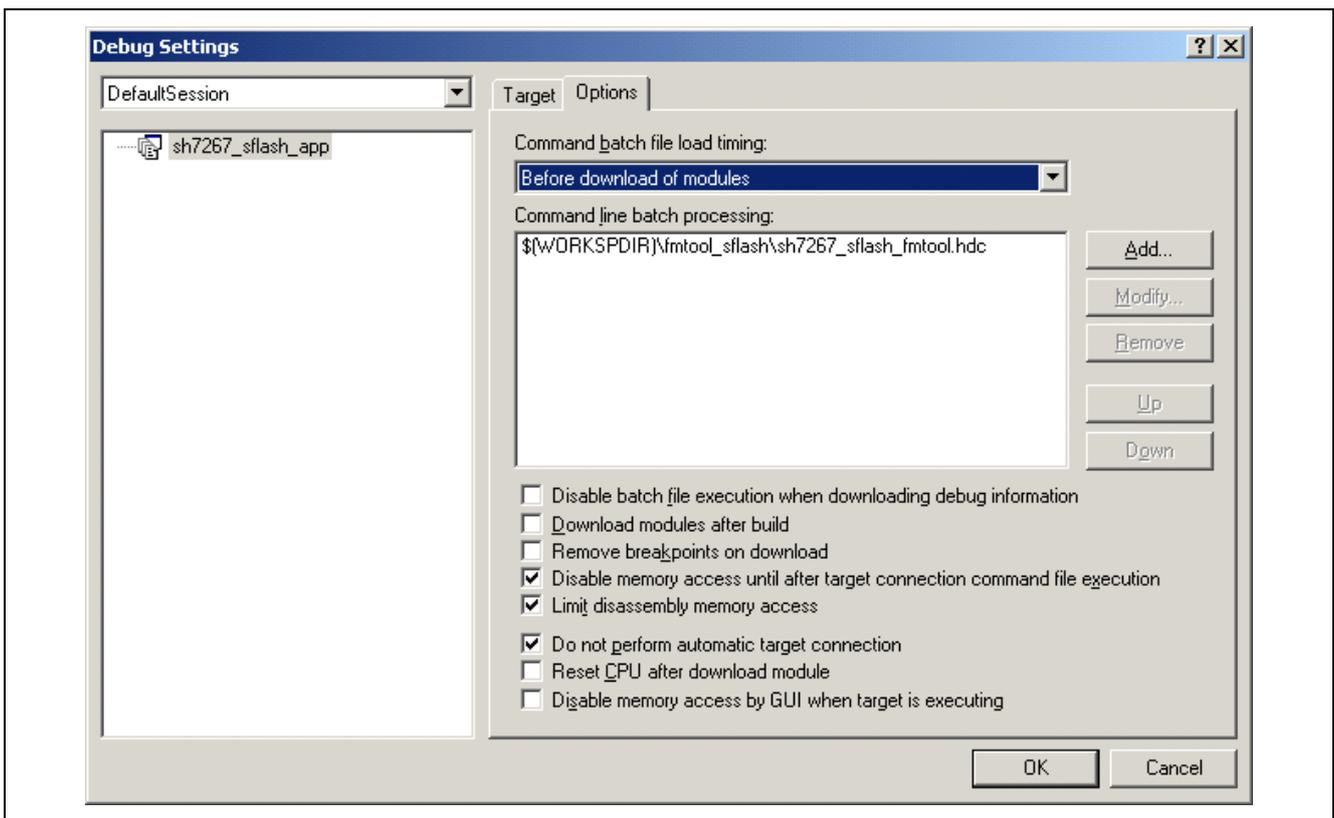

Figure 6.3 Window for Debug Setting
2. The window shown in Figure 6.3 is open.